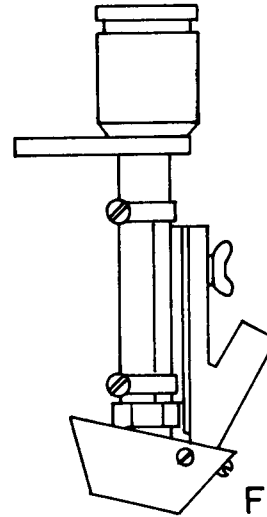

Figure 4
2. Position the stationary member as shown in Figure 4 and then tighten the hose clamps.
4. Since the tips and the wire come out of the nozzle at  $7^\circ$ , there will be some occasions where the cone will have to be tilted as shown. Provisions have been made to accomplish this by removing the furthestmost screw from the tip on each side of the cone, then tilting the cone and putting the two screws back into the rear holes of the cone. Retighten all four screws. See Figure 4.